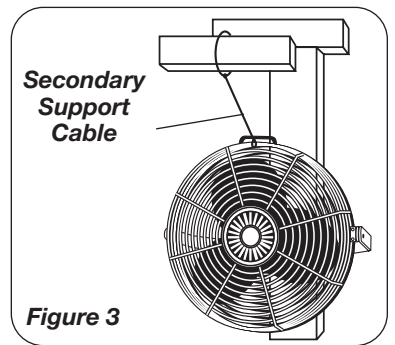

Figure 3
3. Wrap the other end of the Cable around a secure building joist, truss, or other support near the Fan. (Figure 3) Do not attach cable to I-Beam mount pipe. Take up all excess slack in the Cable.